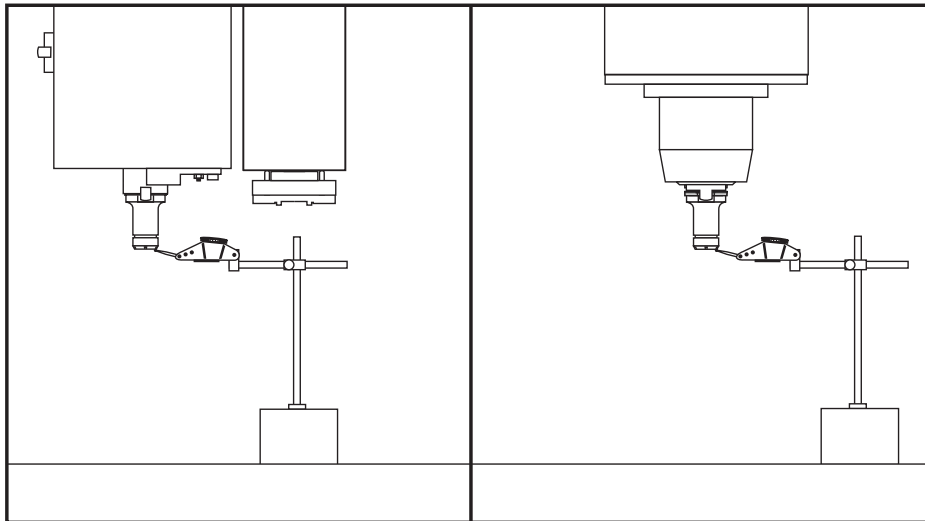

Figure 3.12-18 Setting Parameter 64, indicator reference measurement.
6. Enter DEBUG. Jog handle the Z-axis up or down until the end of the tool is at the same height as the measured value found when the tool was placed in the tool pocket. Record the Z-axis spindle height value. Refer to Figure 3.12-18.